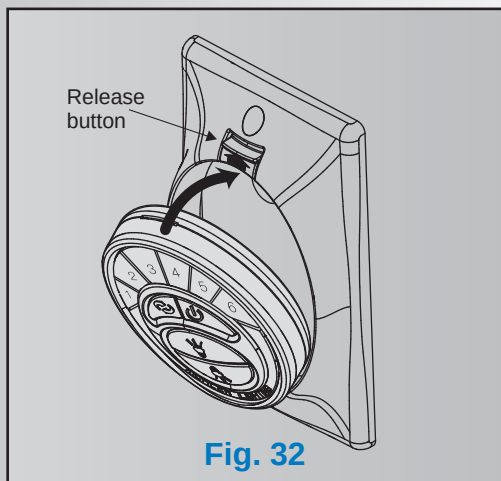

Fig. 32
1. Insert the transmitter into the wall plate by inserting the bottom of the transmitter first and then press the top of the transmitter into the pocket. The transmitter will fully function from this location or you can remove the transmitter and use as a "Hand Held" device. (Fig. 32)